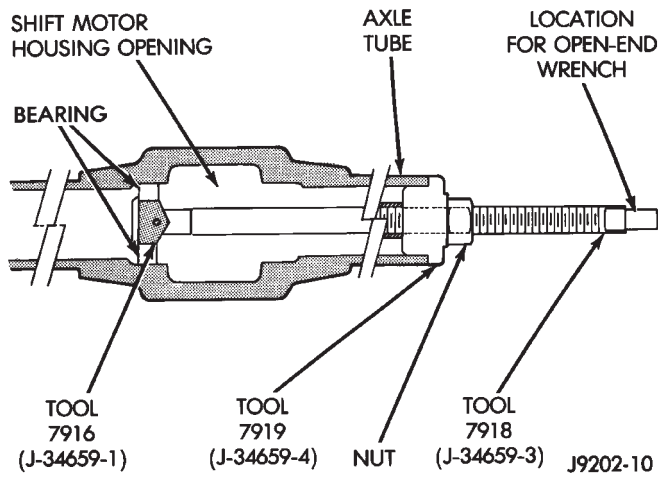

Fig. 14 Bearing Removal Tool Installed
- (6) Remove the intermediate axle shaft bearing (Fig. 14).